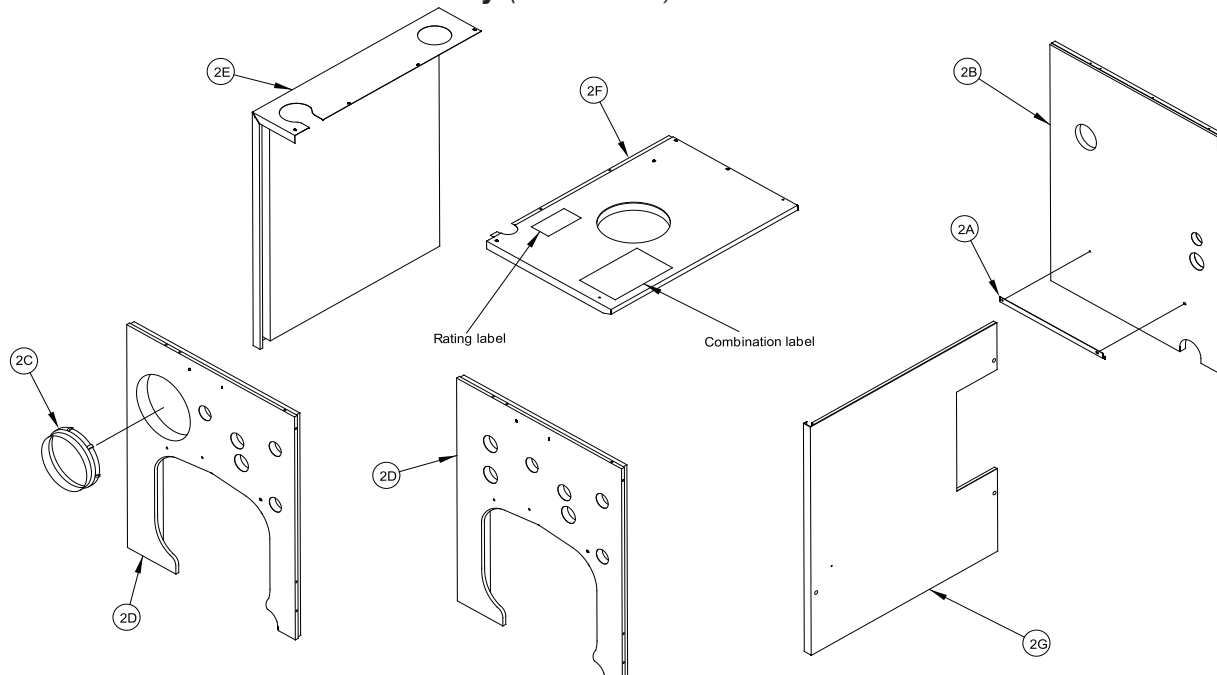

Figure 6: Knockdown Boiler Jacket Assembly
I. INSTALL BOILER JACKET. (See Figure 6).
2. Install jacket rear panel support bracket. (See Figure 6, Item 2A). Align bracket with two (2) 5/16"-18 tapped holes in rear section and secure with two (2) 5/16"-18 x 1/2" long cap screws.
3. Install jacket rear panel. (See Figure 6, Item 2B). Align holes in jacket rear panel and support bracket. Secure with two (2) #8 x 1/2" long sheet metal screws.
- a. Install black plastic collar extension to jacket front panels for 7-13/16" diameter tankless heater opening. (See Figure 6, Items 2C and 2D). Engage two (2) of the collar retaining tabs over raw edge of jacket opening. Provide support behind the panel with one hand while applying pressure on collar to snap each tab over edge of opening until all eight (8) tabs are securing collar.
- b. Install jacket front panel. Locate two (2) 11/32" diameter holes, one round, one obround, on front panel approximately 16" up from the bottom of the panel. Align these holes with the similarly located 5/16"-18 tapplings on the front section. Secure with two (2) 5/16"-18 x 1/2" long cap screws.
5. Install jacket left side panel. (See Figure 6, Item 2E). Fold panel at perforation keeping insulation inward. Align left side panel mounting holes with the front and rear panel holes. Secure with #8 x 1/2" long sheet metal screws.
6. Install jacket top panel. (See Figure 6, Item 2F). Place jacket top panel on boiler and secure to front, rear and left side panels with #8 x 1/2" long sheet metal screws.
7. Install jacket right side access panel. (See Figure 6, Item 2G). Align right side panel mounting holes with front and rear panel holes. Secure with #8 x 1/2" long sheet metal screws.
- a. Locate both the Rating Label and Combination Warning Label (P/N 102801-03). Remove paper backing from the labels and apply to the jacket top panel in approximate locations shown in (Figure 6, Item 2F).
- b. On steam boilers only; locate Lowest Permissible Water Level Plate (P/N 81460009 shipped in Steam Trim Carton). Align plate with two 1/8" diameter holes located near the front edge; in line with the lower sight glass tapping, of the jacket right side access panel. Attach plate with two (2) #8 x 1/2" long sheet metal screws. (See Figure 6, Item 2G).